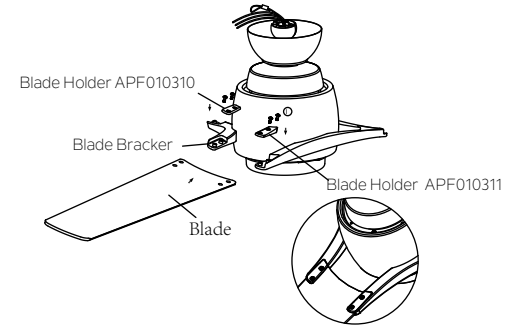

Fig. 9
Step 5. Attach each blade to blade bracket, insert the screws into the blade holder APF010311 and blade holder APF010310, through the blade and into the blade bracket, securely tighten the four screws. (Fig. 9)